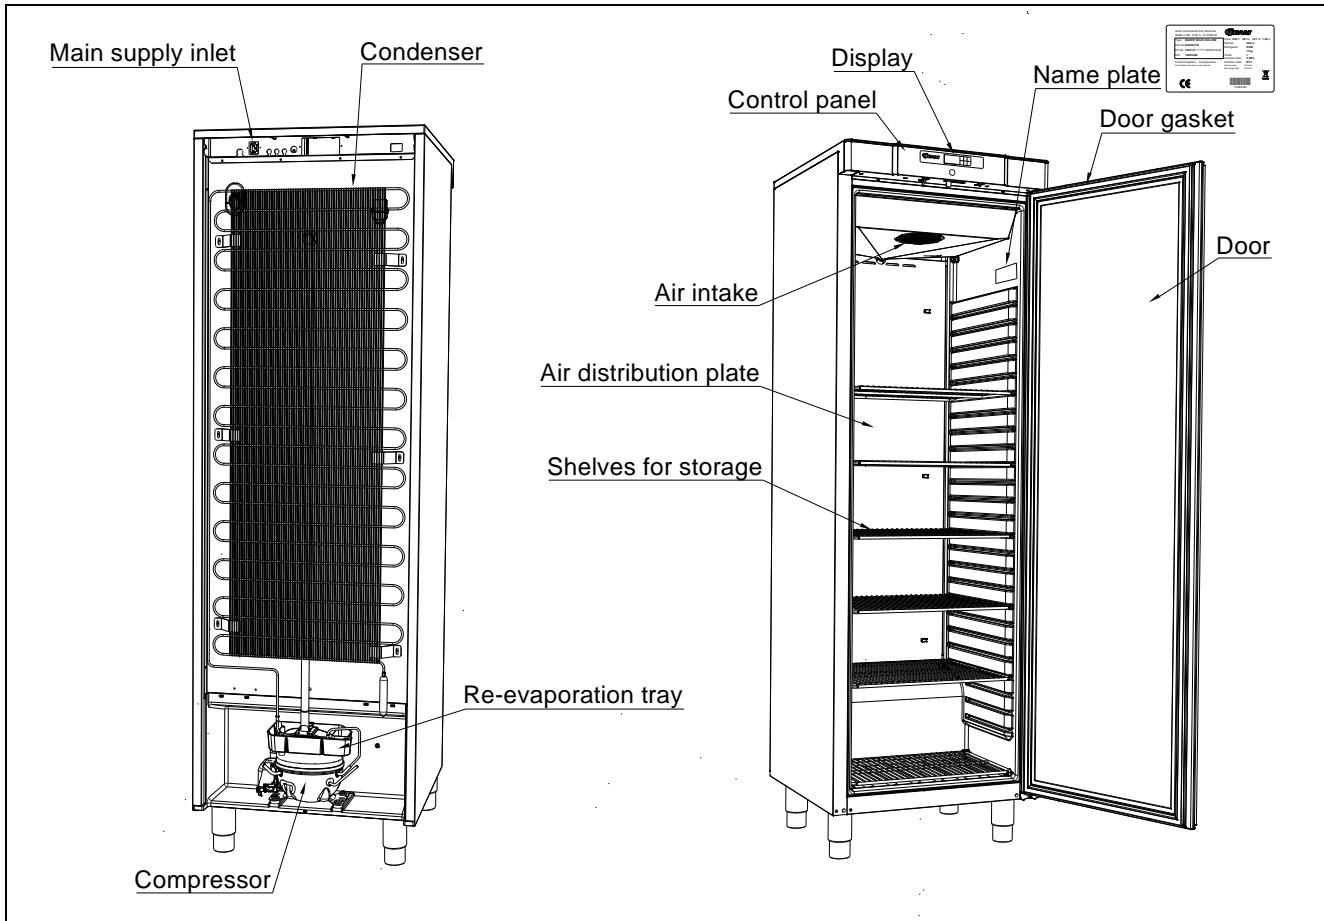

Fig. 6
Products are tested according to the following climate and temperature classes. Information about the product's climate and temperature class can be found on the name plate (see fig.6)
Connect the power cord found at the back of the cabinet to main supply inlet (see fig 6).
The product is intended for connection to alternating current. The connection voltage (V) and frequency (Hz) are shown on the name plate in the cabinet (see Fig.6). Only the supplied cord is to be used.